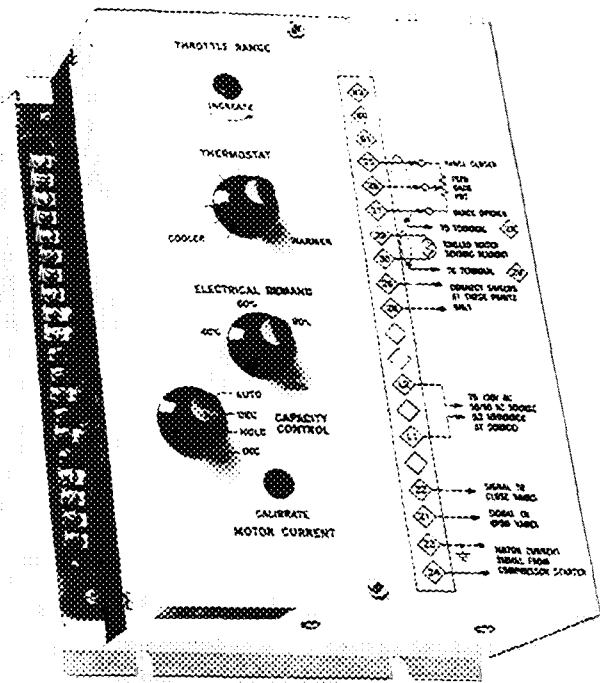

Fig. 7 – Capacity Control Module (Electronic Control)
1. Establish a steady motor current value for this calibration. Open guide vanes manually (capacity control to "Inc") until full load current is reached. Motor current calibration (Fig. 7) may need to be turned counterclockwise to permit vanes to open further. *Do not exceed 105% of nameplate full load amperes.*
3. Use this percentage figure to set the electrical demand adjustment (Fig. 7) per the following table:
5. Turn the thermostat adjustment (Fig. 7) to "Cooler" (fully counterclockwise).
Both excess motor current and chilled water temperatures below the thermostat set point (Fig. 7) will override the capacity control setting. If the capacity control knob is in the “Inc” position, the guide vanes will stop opening. With the knob in any of the other positions, the vanes will close as needed.
1. Turn throttle range adjustment (Fig. 7) fully clockwise.